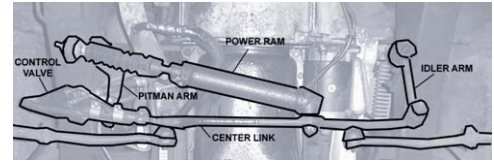

Figure 2-1
- a. Disconnect the two power steering lines at the control valve. (Figure 2-1)